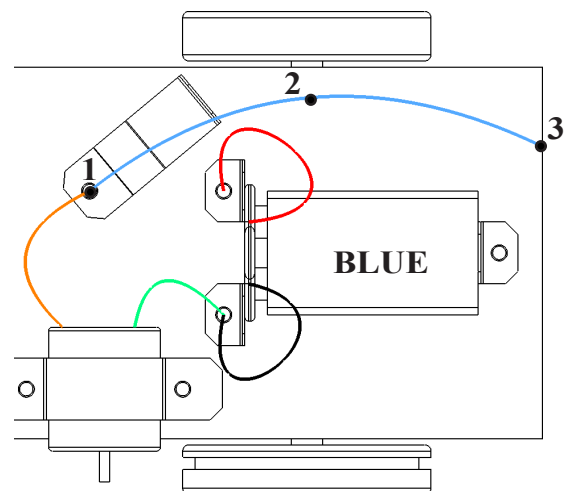

Fig. 24
Step 13. Draw a **BLUE** spline between **switch** and **rear edge of Chassis**, **Fig. 24**. The Solar Panel will be connected to this wire.